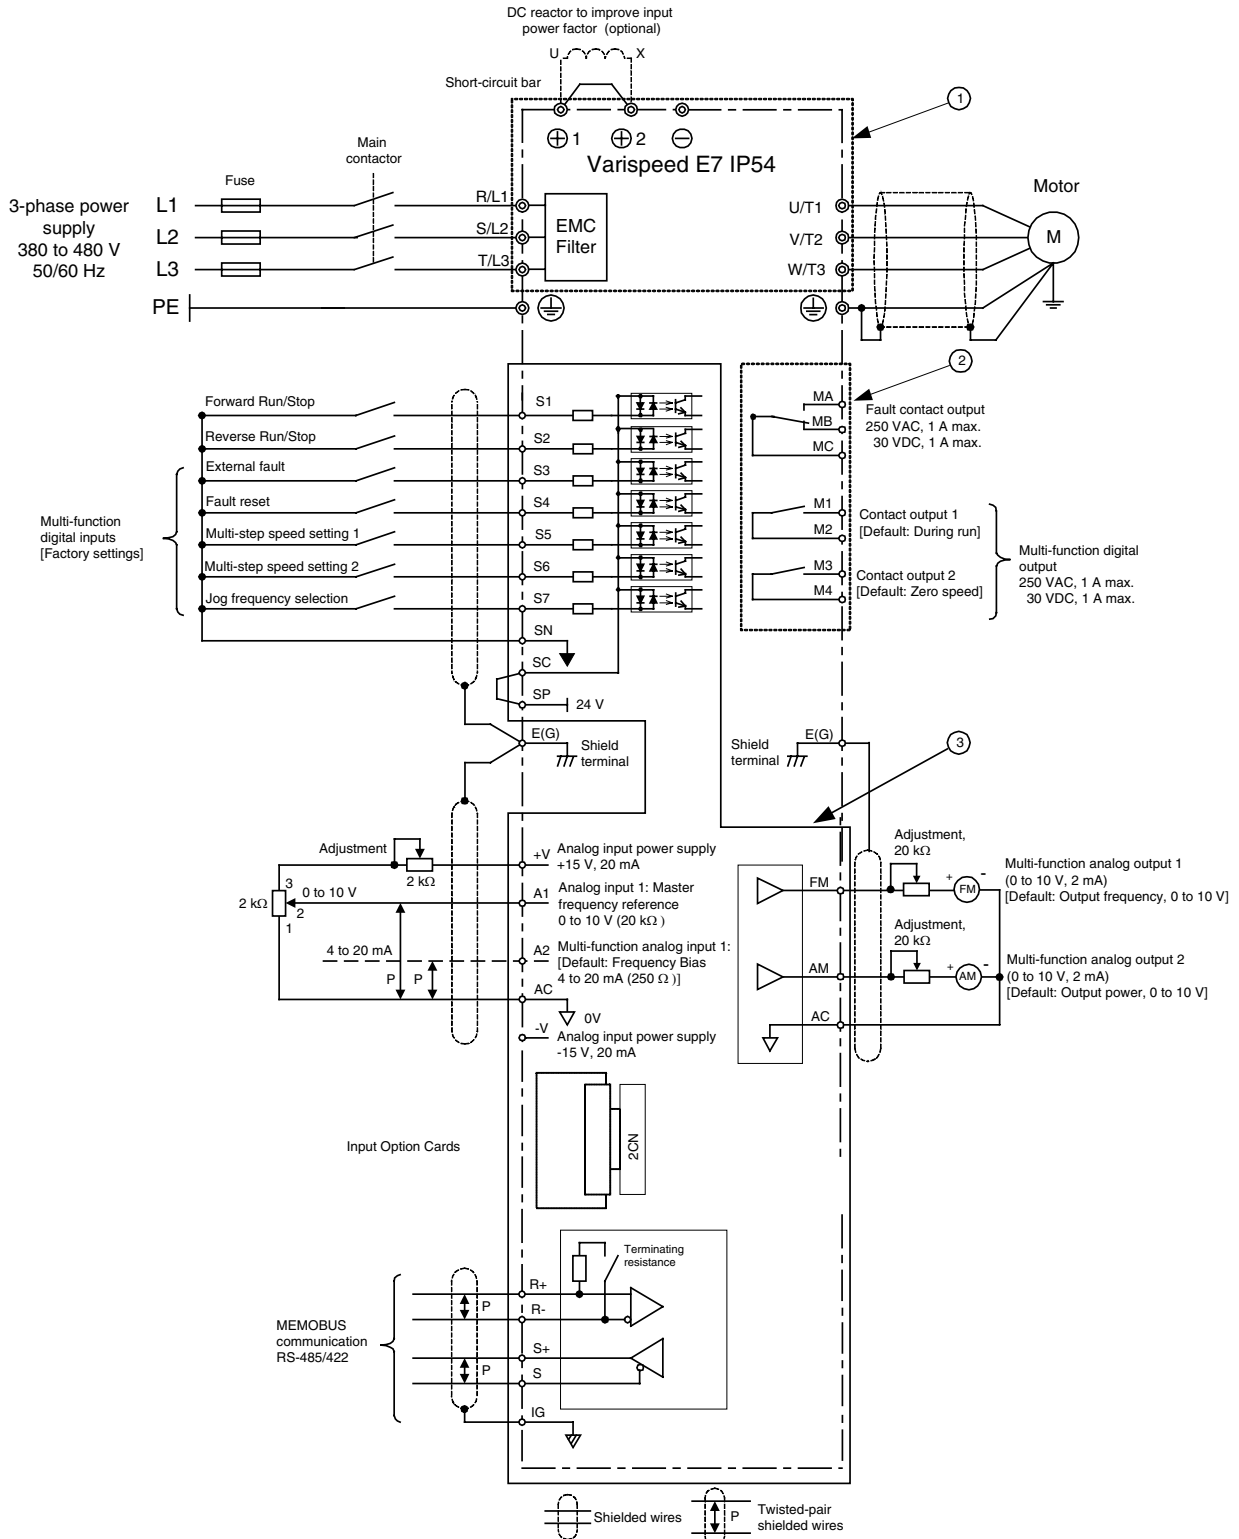

Fig 2 Wiring Diagram
1. In Fig 2 the wiring of the digital inputs S1 to S7 is shown for the connection of contacts or NPN transistors (0V common and sinking mode). This is the default setting. For the connection of PNP transistors or for using a 24V external power supply, refer to Table 3.